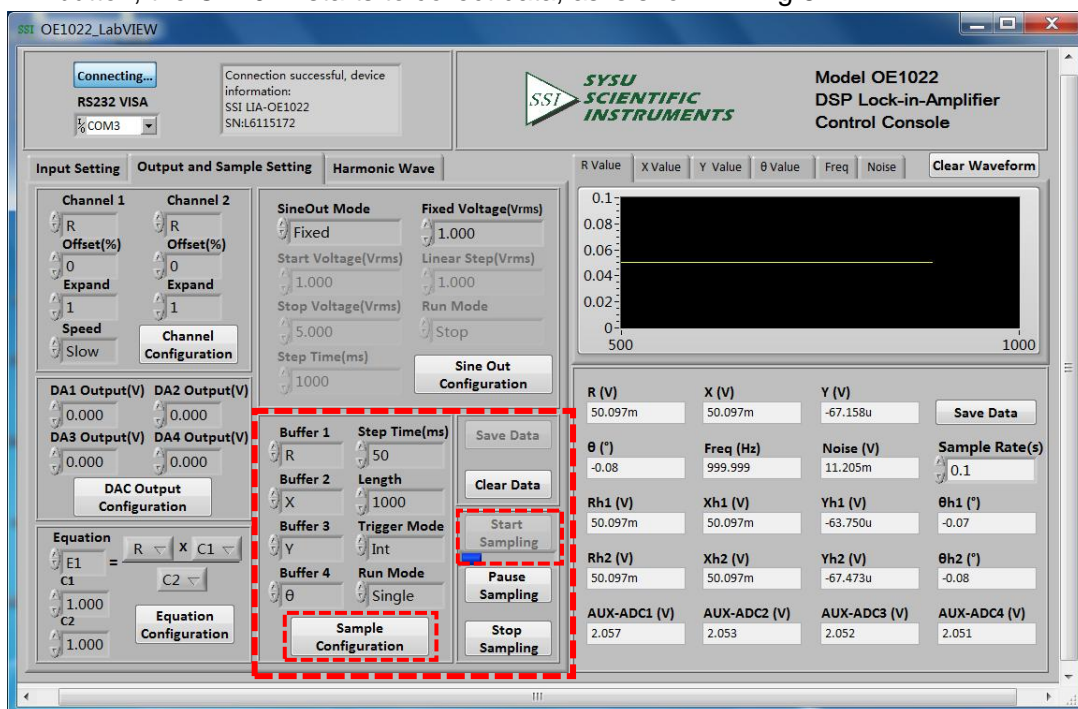

Fig.84 Data Collection
- Choose these options in the configuration area of data buffer, including data type, step time and length with other options in default. Then click the button **Sample Configuration** and then click the button **Start Sampling**. When there is a progress bar at the bottom of this button, the OE1022 starts to collect data, as is shown in Fig.84.